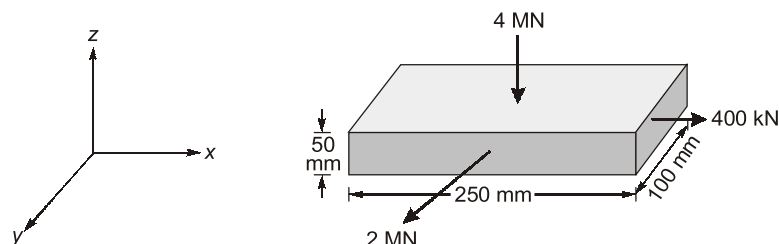

Fig. 1.1
Q.1.2 A metallic bar $250 \text{ mm} \times 100 \text{ mm} \times 50 \text{ mm}$ is loaded as shown in the figure 1.1. Work out the change in volume. What should be the change that should be made in the 4 MN load in order that there should be no change in the volume of the bar.